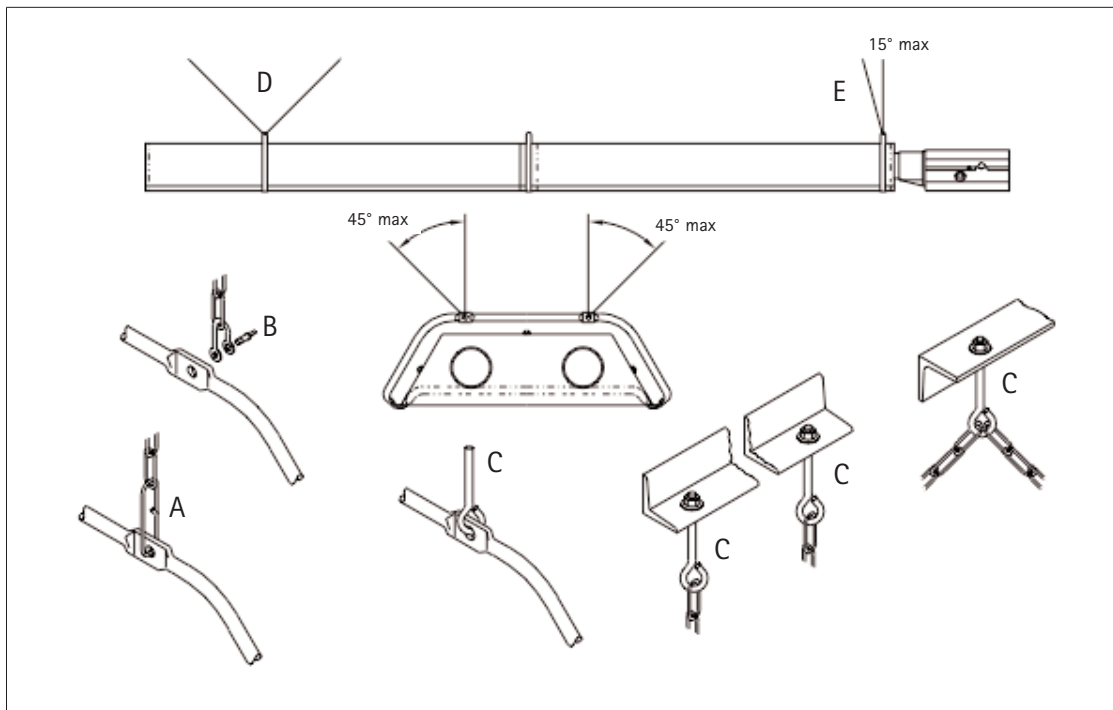

Figure 5
- Ensure the suspension is sufficiently flexible to allow for thermal expansion (see Fig.5).